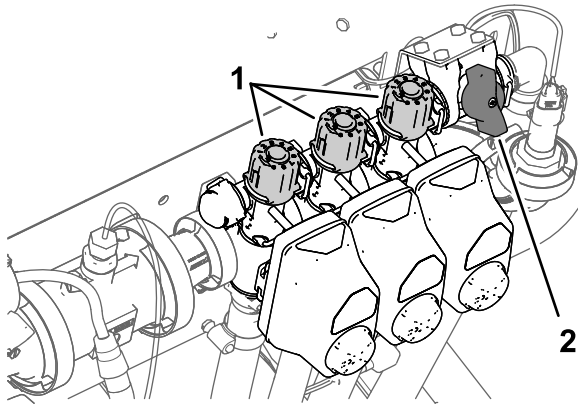

Figure 39
- Turn off the left-section switch and adjust the section-bypass knob (Figure 39) until the rate displayed is at the previous level according to the table.
- Adjust the right section-bypass knob (Figure 39) until the rate displayed is at the previous level according to the table.
- Adjust the center section-bypass knob (Figure 39) until the rate displayed is at the previous level according to the table.